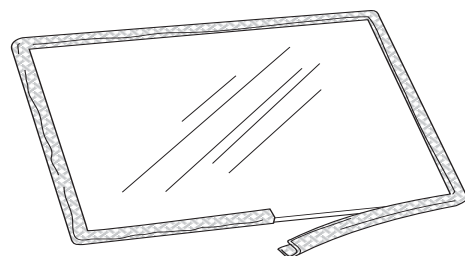

Figure 75. Wrap the gasket around the glass panel.
1. Wrap the new gasketing material evenly around the edge of the glass, peeling back the protective strip to expose the adhesive as you go. See fig. 75. Press the adhesive side down onto the glass surface. Do not stretch the gasket.